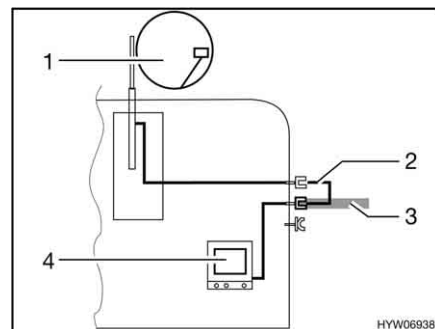

Fig. 150 TV inside the vehicle
- TV inside the vehicle (Fig. 150,4): Connection to roof antenna (Fig. 150,1) with connection cable (Fig. 150,2)
- TV inside the vehicle (Fig. 150,4): Connection to external antenna (Fig. 150,3)